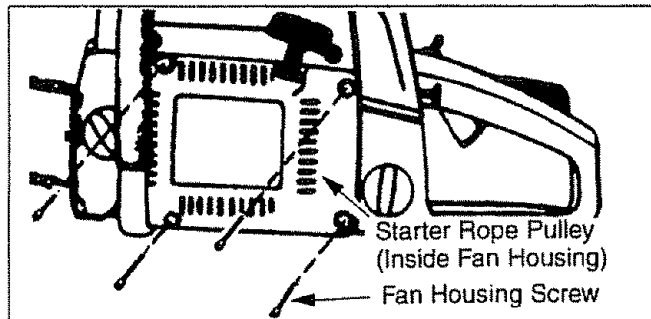

Figure 54
### STARTER ROPE REPLACEMENT (Fig. 54, 55, 56, 57 & 58)
- Reinstall the 4 fan housing screws. Figure 54.